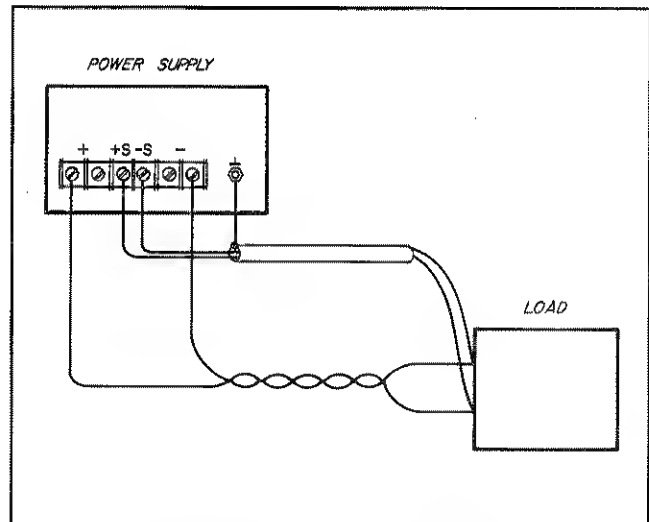

Figure 3-6. Remote Voltage Sensing
**3-41** Because of the unavoidable voltage drop developed in the load leads, the strapping pattern shown in Figure 3-4 will not provide the best possible voltage regulation at the load. The remote sensing connections shown in Figure 3-6 improve the voltage regulation at the load by monitoring the voltage there instead of at the supply's output terminals. Remote sensing allows the power supply to automatically increase the output voltage and compensate for the voltage drops in the load leads. This improves the voltage regulation at the load, and is especially useful for CV operation with loads that vary and have significant load-lead resistance. Note that with remote sensing, voltage readback is at the load. Remote sensing has no effect during CC operation. When using remote sensing, turn off the power supply before changing the rear-panel straps, sense leads, or load leads. Connect the unit for remote voltage sensing by connecting load leads from + OUT and - OUT terminals to the load, disconnecting straps between + Out and + S and between - Out and - S, and connecting sense leads from the + S and -S terminals to the load as shown in Figure 3-6.